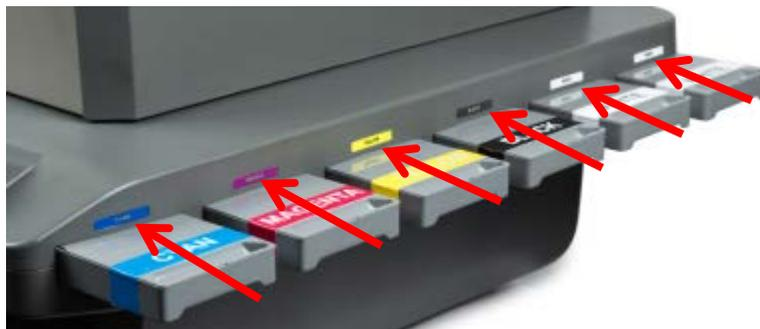

Figure 9.4-7: Ink Bay Cartridge Orientation
- Carefully pull the empty cartridge straight out of the Ink Bay. (Figure 9.4-7) The LCD on the control panel will read “NOT FOUND” for the missing cartridge.